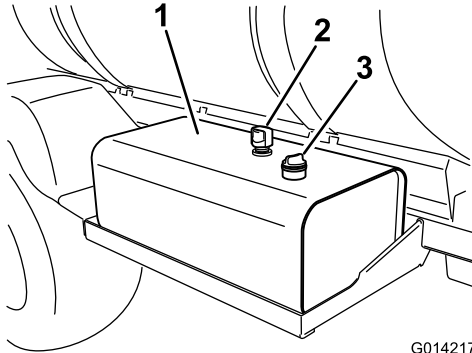

Figure 85
2. Clean the area around the hydraulic-fluid-tank dipstick cap and remove it (Figure 85).